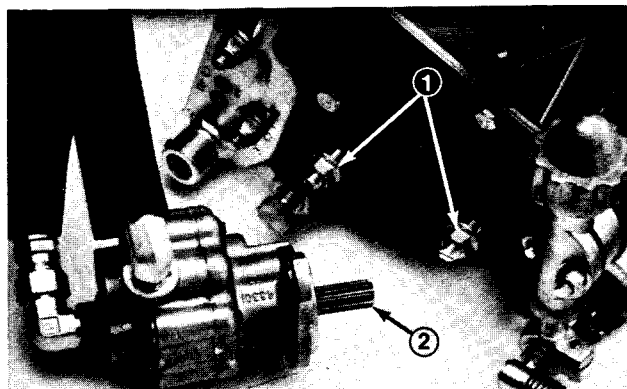

Figure 24
2. Loosen reel motor mounting nuts (Fig. 24). Rotate the motor clockwise so motor flanges clear studs and pull motor off of cutting unit.